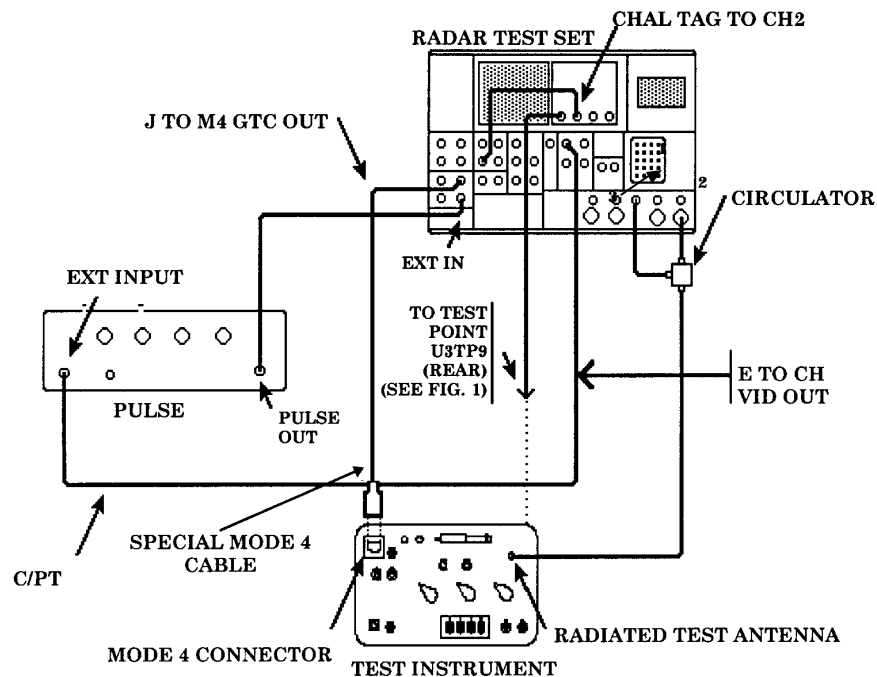

Figure 8. MODE 4 interrogation video - equipment setup.
(1) Connect equipment as shown in figure 8.